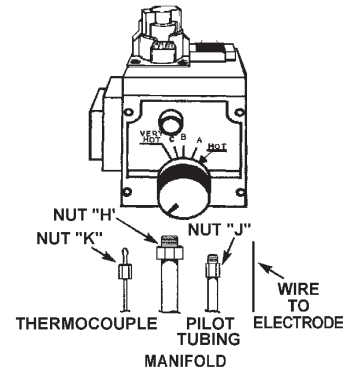
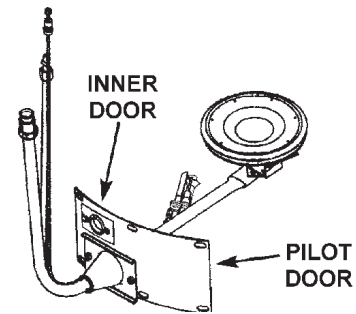
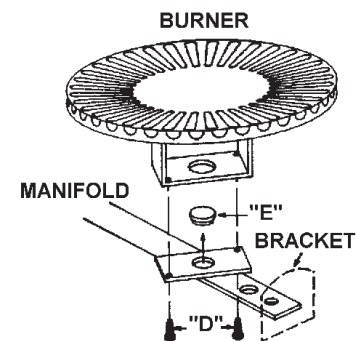
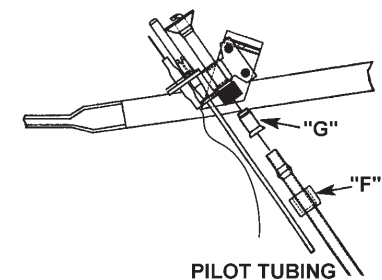

FIGURE 32.
FIGURE 33.
FIGURE 34.
FIGURE 35.
- Step 3. Remove burner assembly from water heater control by first removing 6 screws holding inner door to heater, then loosening 3/4" nut "H" holding burner assembly to control, see figures 32 and 33. Loosen pilot tube nut "J" and thermocouple nut "K" at control. Disconnect wire to Piezo Igniter.
- Step 4. Remove screws "D" disengaging manifold from burner, see Figure 34 page 19.
- Step 5. Remove orifice "E", see Figure 34 page 19 using 3/8" wrench. Install orifice marked "L.P." found in the bag into manifold. Tighten securely. Secure burner to manifold with screws "D".
- Step 6. Loosen pilot tube nut "F", see Figure 35 page 19. Remove orifice "G" and replace with red colored orifice found in bag. Reinstall nut "F" and tighten securely.
- Step 7. Make sure all connections are tightened securely, and reinstall burner assembly into water heater. Position end of manifold inside bracket as shown in Figure 34 page 19. Reinstall manifold into control and tighten 3/4" nut ("H") securely. Recheck to see that end of manifold is still inside bracket as shown in Figure 34 page 19. Reinstall pilot tubing and thermocouple into control, see Figure 32 page 15. Connect wire to Piezo Igniter. Reinstall inner door using the 6 screws removed in Step 3.
- Step 12. The pilot is located in front of the burner, see Figure 33 on page 19.
- Step 14. Push in control knob all the way and hold down. Immediately light the pilot using the Piezo Igniter. Continue to hold control knob in for about one (1) minute after the pilot is lit. Release knob and it will pop back up. Pilot should remain lit. If it goes out, repeat Steps 9 through 12.
- Step 15. Check for gas leaks with only pilot flame burning using soapy water solution, not a match or open flame. Check for gas leaks at fittings "F" and "G", see Figure 35 page 19 and at fittings "J", see Figure 32 page 19.
- Step 19. With a soapy water solution, not a match or open flame, check for gas leaks at gas connection "H", see Figure 32 page 19. If gas leak occurs, turn off immediately by shutting off gas cock at inlet to control, or by turning gas control knob (↻) to "PILOT" pushing down and turning to "OFF". Repair gas leak as necessary, and repeat Steps 9 through 19.